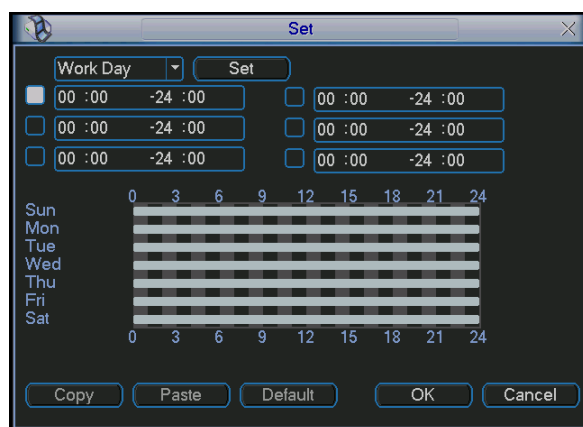
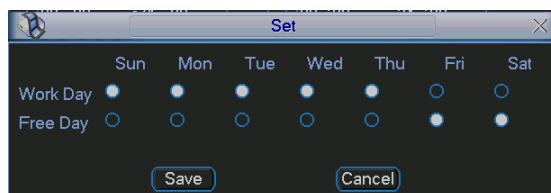

Figure 4-20
Figure 4-21
- Period: Click set button, you can see an interface is shown as in Figure 4-20. Here you can set for business day and non-business day. In Figure 4-20 \_\_, click set button, you can see an interface is shown as in Figure 4-21. Here you can set your own setup for business day and non-business day.